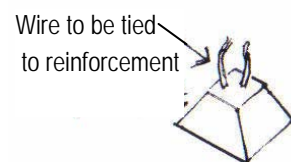

Fig 11- **Typical spacer block**
- Used spacer blocks (mortar blocks) that are comparable in strength, durability, porosity and appearance to the surrounding concrete (See fig. 11)